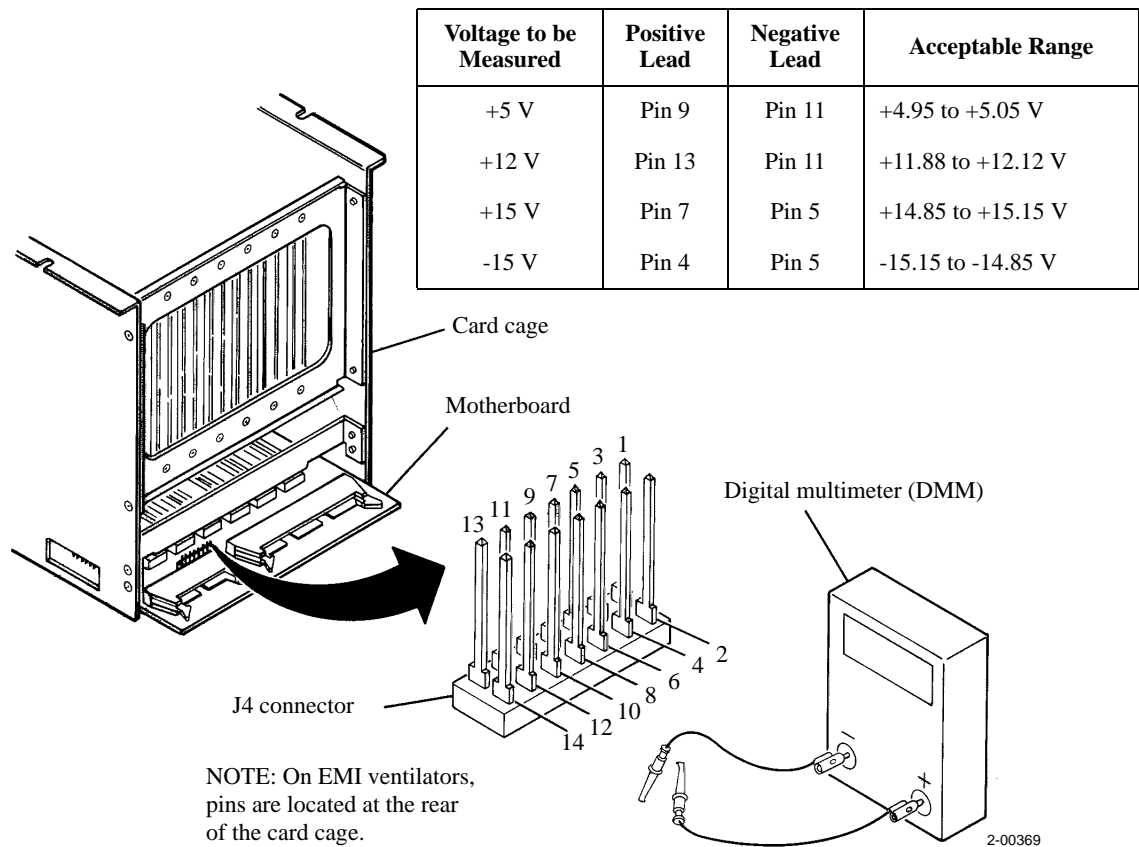

Figure 7-7. Testing Power Supply Output Voltages (non-EMI card cage shown)
2. Connect DMM leads to motherboard connector J14 as indicated in Figure 7-7. Turn on ventilator power. **VERIFY** the voltages while running the lamp test (to load the +5 V and +12 V supplies). (See Section 7.8, *Item 11* for troubleshooting information.)